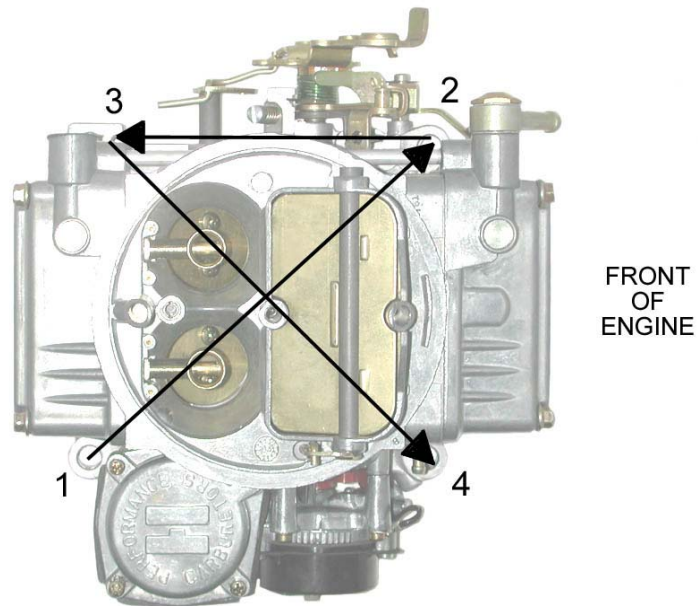

Figure 1—Carburetor torque sequence (all Holley carburetors)
3. Place the carburetor on top of the flange gasket on the manifold. Install the hold down nuts and snug down progressively in a "crisscross" pattern (60-80 in./lbs.), as shown in Figure 1.